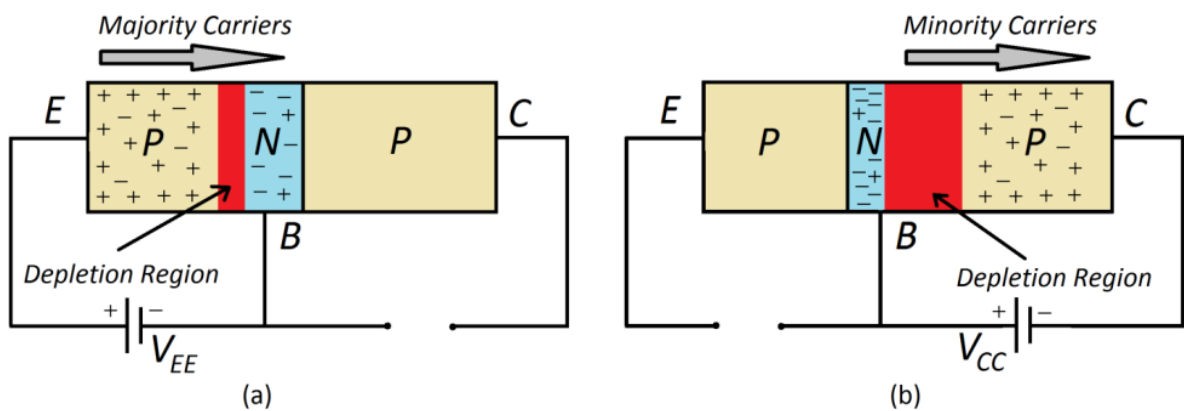
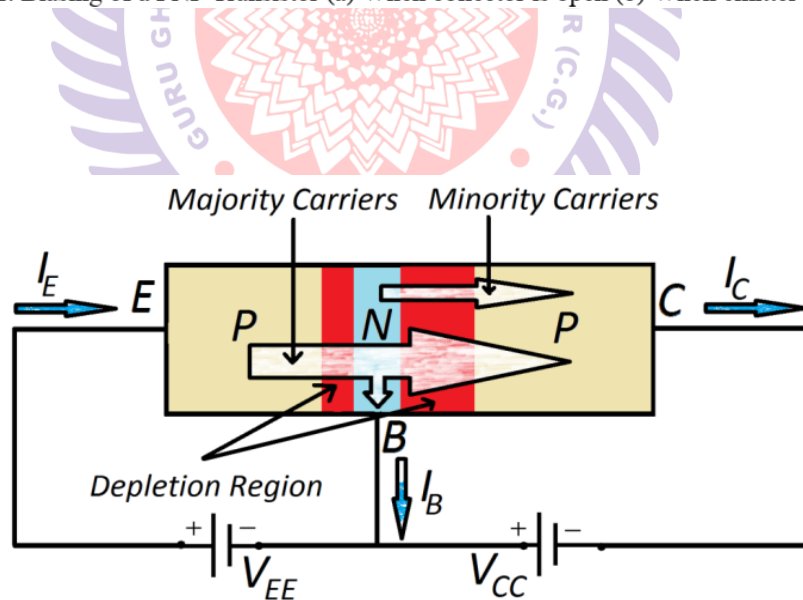

Figure 2. Biasing of a PNP Transistor (a) When collector is open (b) When emitter is open
Figure 3. Majority and minority carrier flow of a PNP transistor
- TRANSISTOR OPERATION:-** The basic operation of the transistor will now be described using the pnp transistor as shown in Fig. 2.b. The operation of the npn transistor is exactly the same if the roles played by the electron and hole are interchanged. In Fig. 2.a the pnp transistor has been redrawn without the base-to-collector bias. The depletion region has been reduced in width due to the applied bias, resulting in a heavy flow of majority carriers from the p- to the n-type material. Let us now remove the base-to-emitter bias of the pnp transistor as shown in Fig. 2.b. The flow of majority carriers is zero, resulting in only a minority-carrier flow, as indicated in Fig. 2.b. Therefore, one p-n junction of a transistor is reverse biased, while the other is forward biased. Applying Kirchhoff's current law to the transistor of Fig. 3 as if it were a single node, we obtain
and find that the emitter current is the sum of the collector and base currents. The collector current, however, is comprised of two components—the majority and minority carriers as indicated in Fig. 3. The minority current